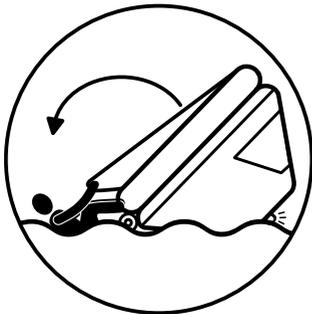
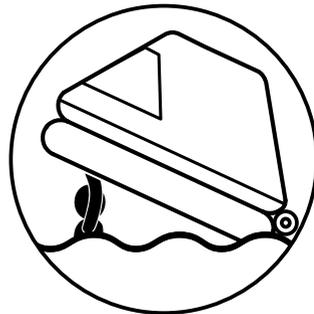

Fig 4 - Pull the righting strap and flip the raft
Fig 5 - Keep a firm grip on the righting strap
4. Whilst retaining a firm grip on the righting strap, pull the liferaft over to a boardable position (Fig 4). Keep a firm grip on the righting strap throughout the procedure. Failure to do so could result in the liferaft righting on top of you (Fig 5), or given high winds, the liferaft may travel rapidly down wind after righting.